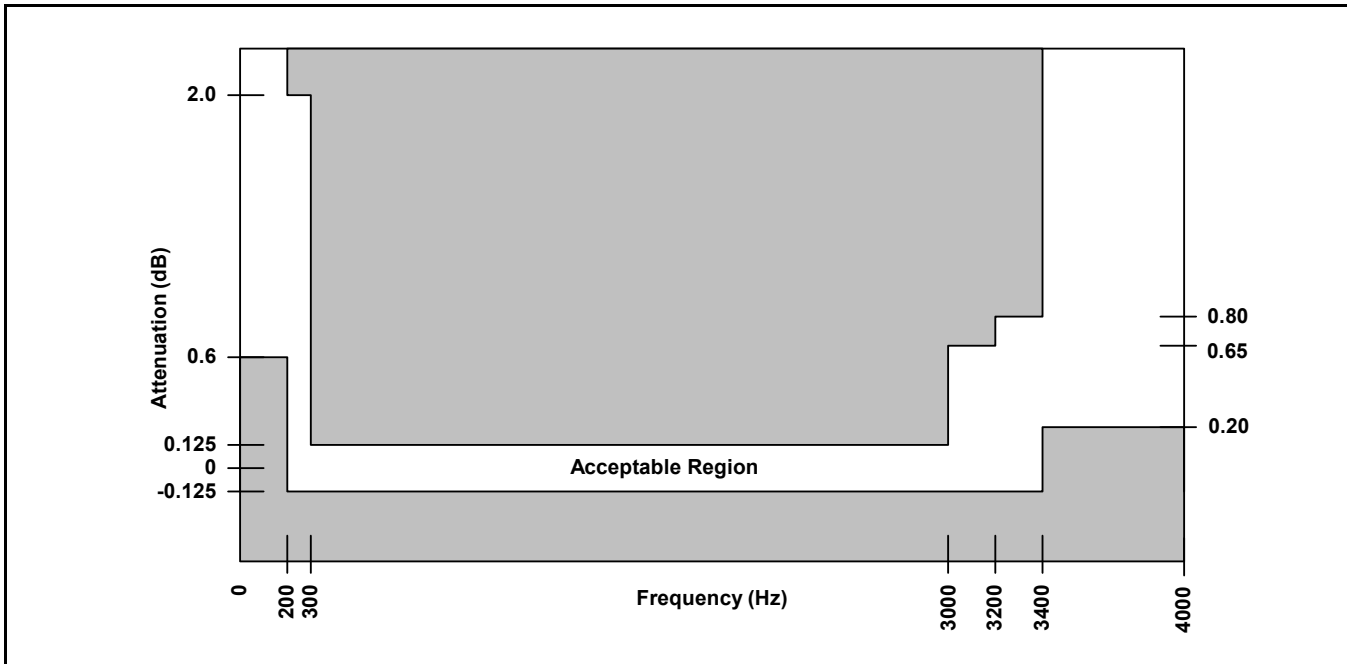
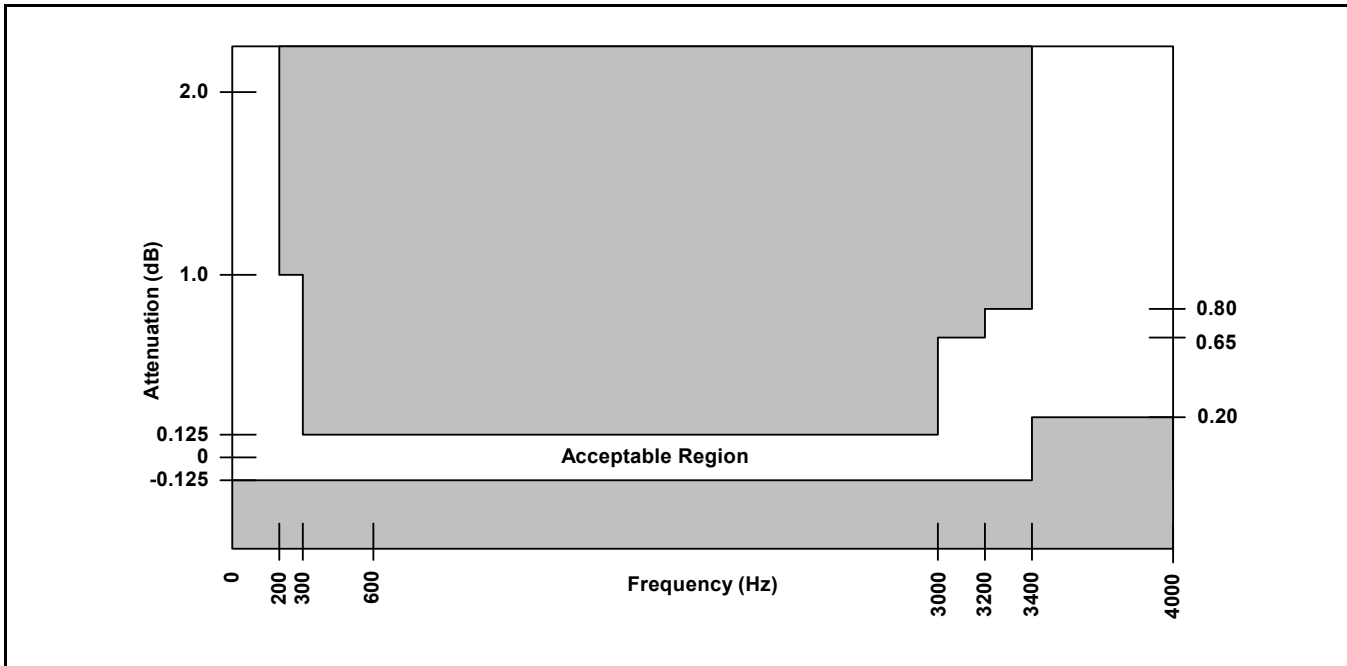

Figure 22 - Transmit Path Attenuation vs. Frequency
Figure 23 - Receive Path Attenuation vs. Frequency
- See Figure 22 and Figure 23.
The signal attenuation in either path is nominally independent of the frequency. The deviations from nominal attenuation will stay within the limits shown in Figure 22 and Figure 23. The reference frequency is 1014 Hz and the signal level is -10 dBm0.